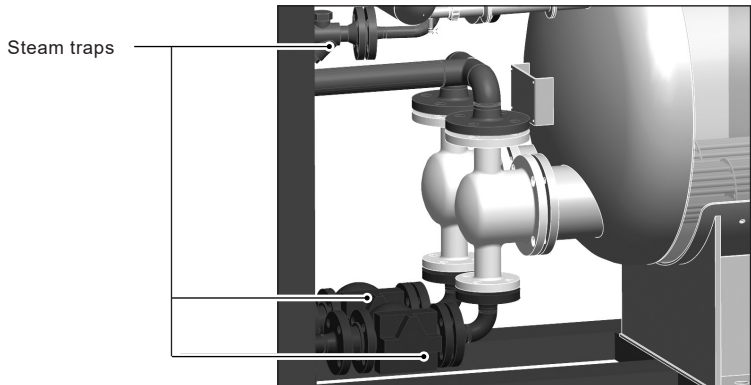

Fig. 16
5.4.4 Steam traps (main and auxiliary) - Figure 16